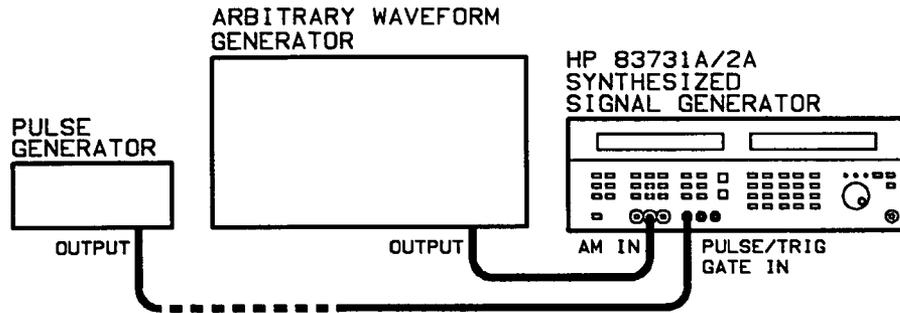
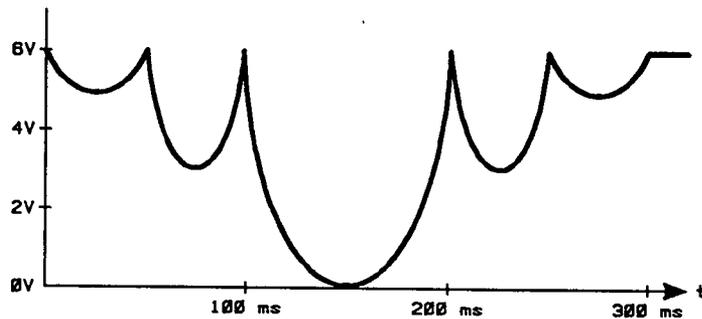
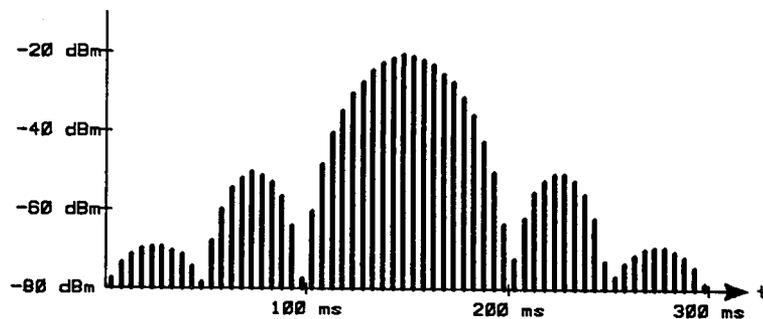

Figure 3-11. Antenna Scan Equipment Setup
Figure 3-12. Example Antenna Scan Input
Figure 3-13. Example Modulated Antenna Scan Pattern
1. Connect the equipment as shown in Figure 3-11:
The antenna scan waveform should vary from a positive voltage to zero volts. For every +1 volt at the AM IN connector, the RF output will be attenuated by 10 dB. For example, the waveform shown in Figure 3-12 applied to the AM IN connector will cause the antenna scan pattern shown in Figure 3-13 to appear at the Synthesizer RF OUTPUT connector (provided the output level of the Synthesizer has been set to -20 dBm).
To program the Synthesizer to generate the antenna scan pattern explained above, connect the equipment as shown in Figure 3-11, omitting the pulse generator. Set the scan generator to produce the scan waveform shown in Figure 3-12, and then run the following program.